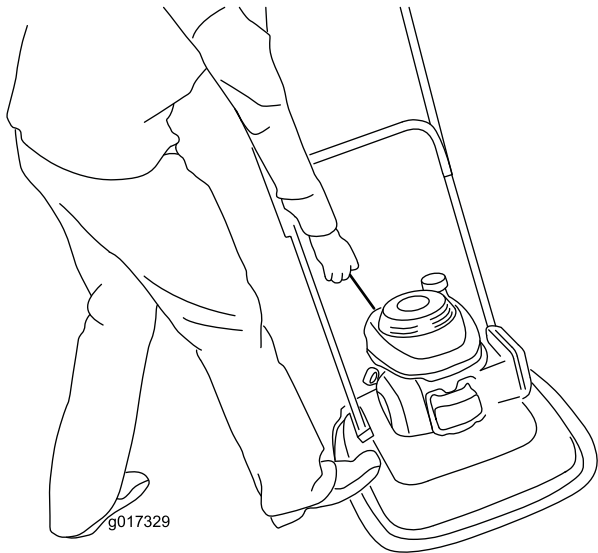

Figure 13
3. Place your foot on the deck and tilt the machine towards you (Figure 13).